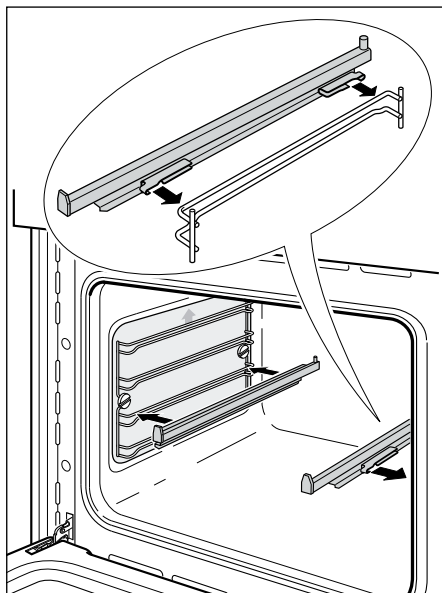

Fig.22 Refitting the sliding shelf supports
- 2 Fit the sliding shelf support onto the top wire of a rack and press (Fig. 22). You will hear a click as the safety locks clip over the wire.
- *the slides so that they run out towards the oven door, as shown in Fig. 22.*